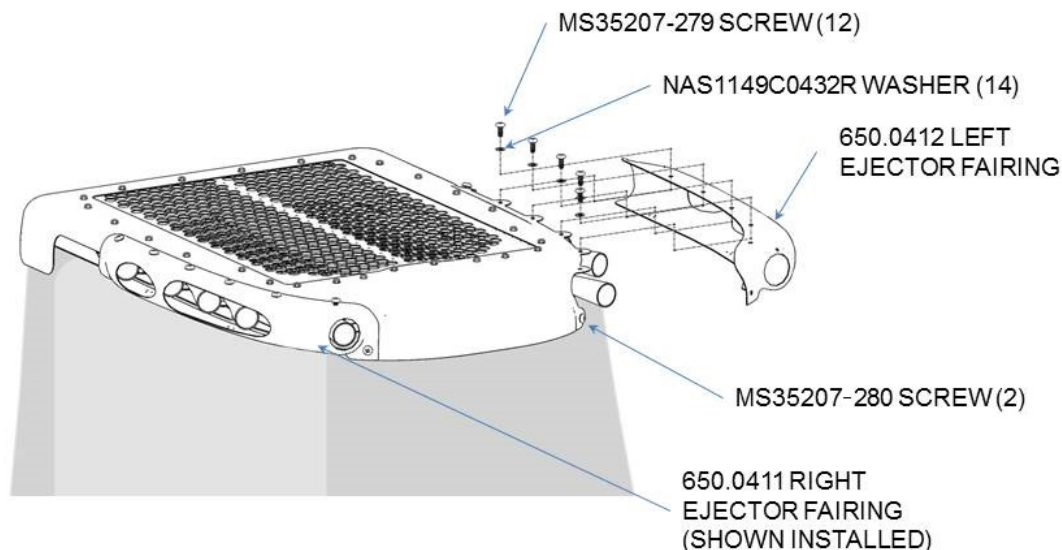

Figure 10 – Ejector Cover Installation
- 3.1.20. Re-assemble the 650.0412 Ejector Fairing on to the 650.0410 Fairing by securing the Ejector Fairing to the mating flange on the D4925-041 Mounting Plate using Qty (4) MS35207-279 Screws and Qty (4) NAS1149C0432R Washers through the D4935-1 Mounting Brackets per Figure 10.